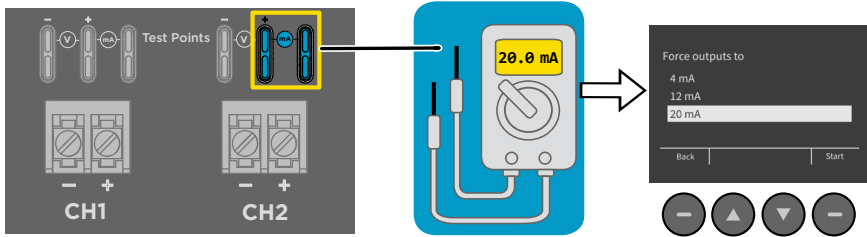

Figure 42 Multimeter test point overview
2. Connect a multimeter to the mA testing points located above the output screw terminals on the transmitter component board (see Figure 42 \(page 63\)).
- 2. Connect a multimeter to the mA testing points located above the output screw terminals on the transmitter component board (see Figure 42 \(page 63\)).